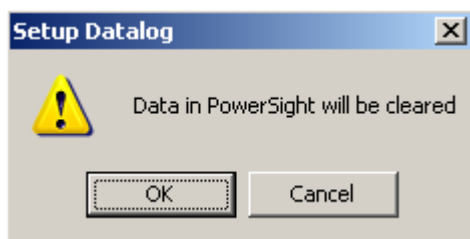

Figure 6: Setup Datalog warning screen.
9. Click the Save to Powersight button to send the configuration to the data logger. All of the data will be cleared and the previous data logger configuration will be replaced with the new configuration. Click **OK** when the message *Data in the Powersight* will be cleared is displayed (*figure 6*).